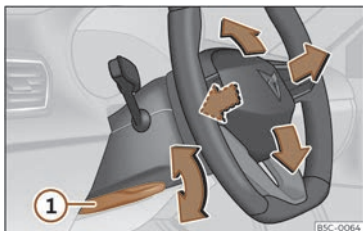

Fig. 92 Lever in the lower left side of the steering column.
- Pull lever >>> **Fig. 92** ① down, move the steering wheel to the desired position and lift the lever back up until it locks.
- After adjusting the steering column, push lever >>> **Fig. 92** ① firmly upwards so that the steering wheel does not accidentally change position while driving.